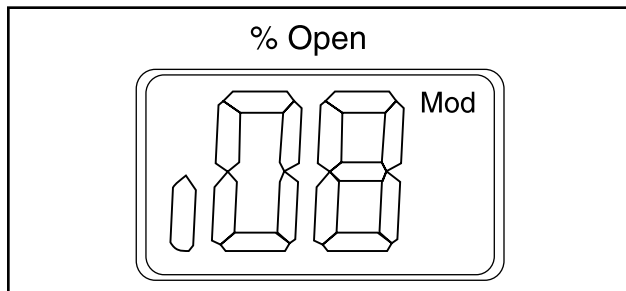

Figure 24
- Gives access to the Parameter list by keeping the push button activated for 2 seconds. A Parameter list example is shown below (parameter j08, Figure 24).